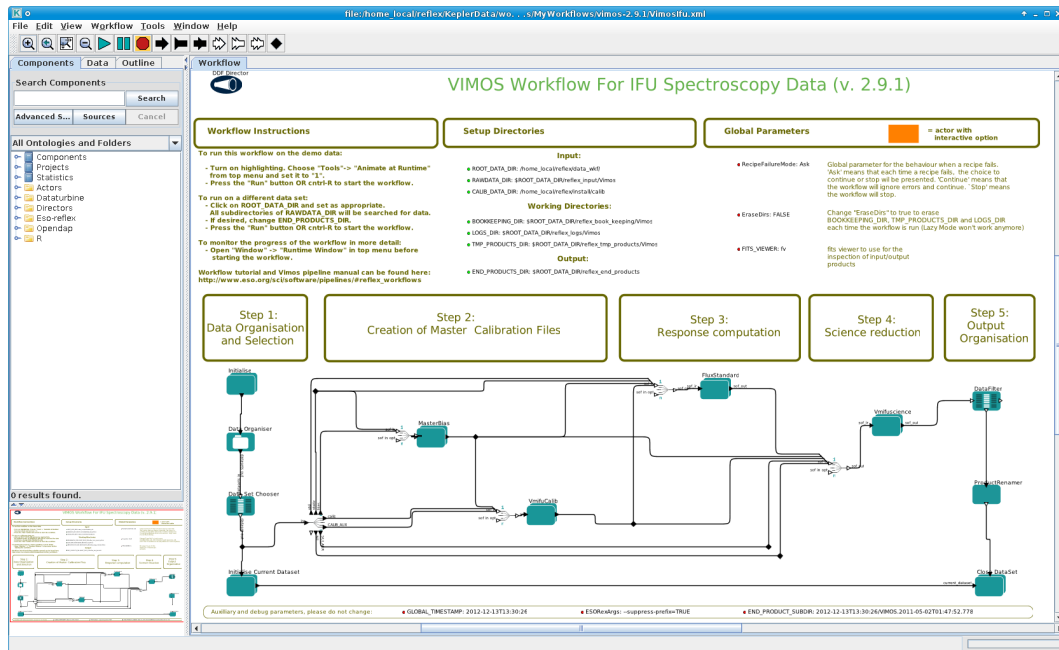

Figure 4.2: VIMOS workflow general layout.
2. Now open the VIMOS workflow by clicking on File -> Open File, selecting first vimos-2.9.1 and then the file VimosIfu.xml in the file browser. You will be presented with the workflow canvas shown in Figure 4.2. Note that the workflow will appear as a canvas in a new window.